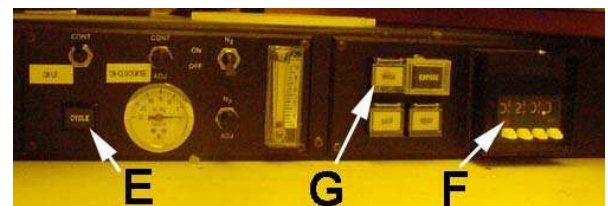

Fig. 3. Stage Controls
8. Set UV exposure time (sec) using the four white tabs (F, Fig. 3). **Note:** Typical exposure time, 10 sec.
- Press CYCLE button (E, Fig. 3); turn microscope lamp on, and locate microscope near center of stage.
- **Exposure** Press the CYCLE button (E, Fig. 3) to rotate the UV lamp into place. The UV lamp is automatically lit, exposing the photoresist for the set exposure time.
- Press the **CYCLE** button (**E**, Fig. 3) to rotate the microscope into place. You may inspect the alignment of the mask and wafer at this stage, but do not move the wafer while it is in contact with the glass blank as this will damage your wafer and printed pattern on the transparency. If you need to make adjustments, lower the wafer slightly, and make any adjustments using the **CW/CCW**, **X**- and **Y**-alignment knobs. Once it's aligned slowly raise the wafer to the glass as instructed above.
- **Exposure** Press the **CYCLE** button (**E**, Fig. 3) to rotate the UV lamp into place. The UV lamp is automatically lit, exposing the photoresist for the set exposure time.
2. Press the **MASK** button (**G**, Fig. 3) to raise the mask platform (**M**).
5. Press the **MASK** button (**G**, Fig 3) to lower the mask platform (**M**).